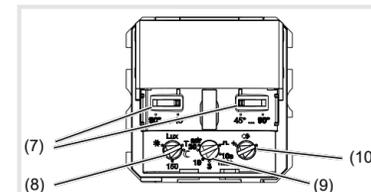

Figure 9: Adjuster and potentiometer
The detection angle can be restricted for the right side and for the left side via each adjuster (figure 9, 7) between 45° ... 90° for each adjuster. This can be carried out on the device. Thus, the detection angle can be between 90° up to approx. 180° (figure 5).
- To do this, set the response brightness potentiometer (Fig. 9, 8) to TEST.
- Turn the delay time potentiometer (Figure 9, 9) to the desired position.
- Turn the sensitivity potentiometer (Fig. 9, 10) to the desired position.